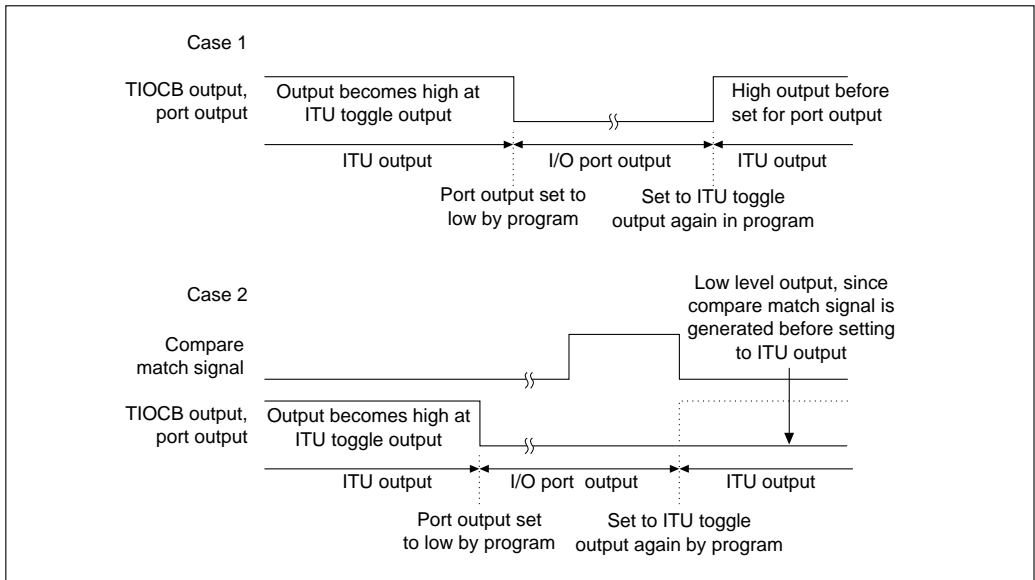

Figure 2.12 ITU Output and Port Output (A)
2. When a compare match signal is generated at the point when the port output is to be changed to ITU output, the value changes. (See figure 2.12.)